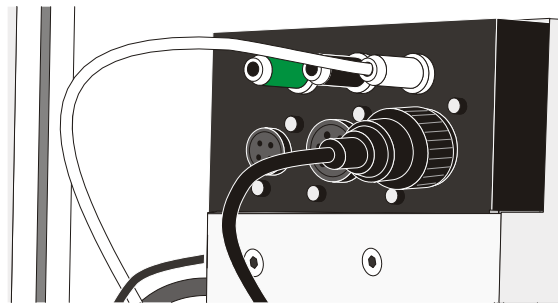

Figure 3-13 Valve Connections (Spectrum)
5. Make valve electrical connections as shown in Figure 3-13. The syringe must be installed to connect the clear fluid line. See "Installing a Syringe" in the Operation section.